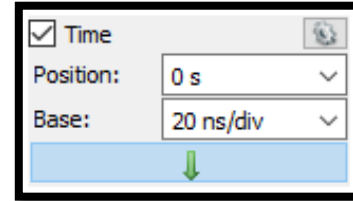

Figure 1. Appropriate time base for 4 MHz square waveform.
1.9. Use the *Scope* feature of *WaveForms* to measure the clock signal and display a precise measurement of the waveform frequency. (To yield an accurate frequency measurement, set your time base to an appropriate value, like “20 ns/div”, as shown in *Figure 1*.) Submit a screenshot of the *Scope* window, including both the relevant waveform and frequency measurement.